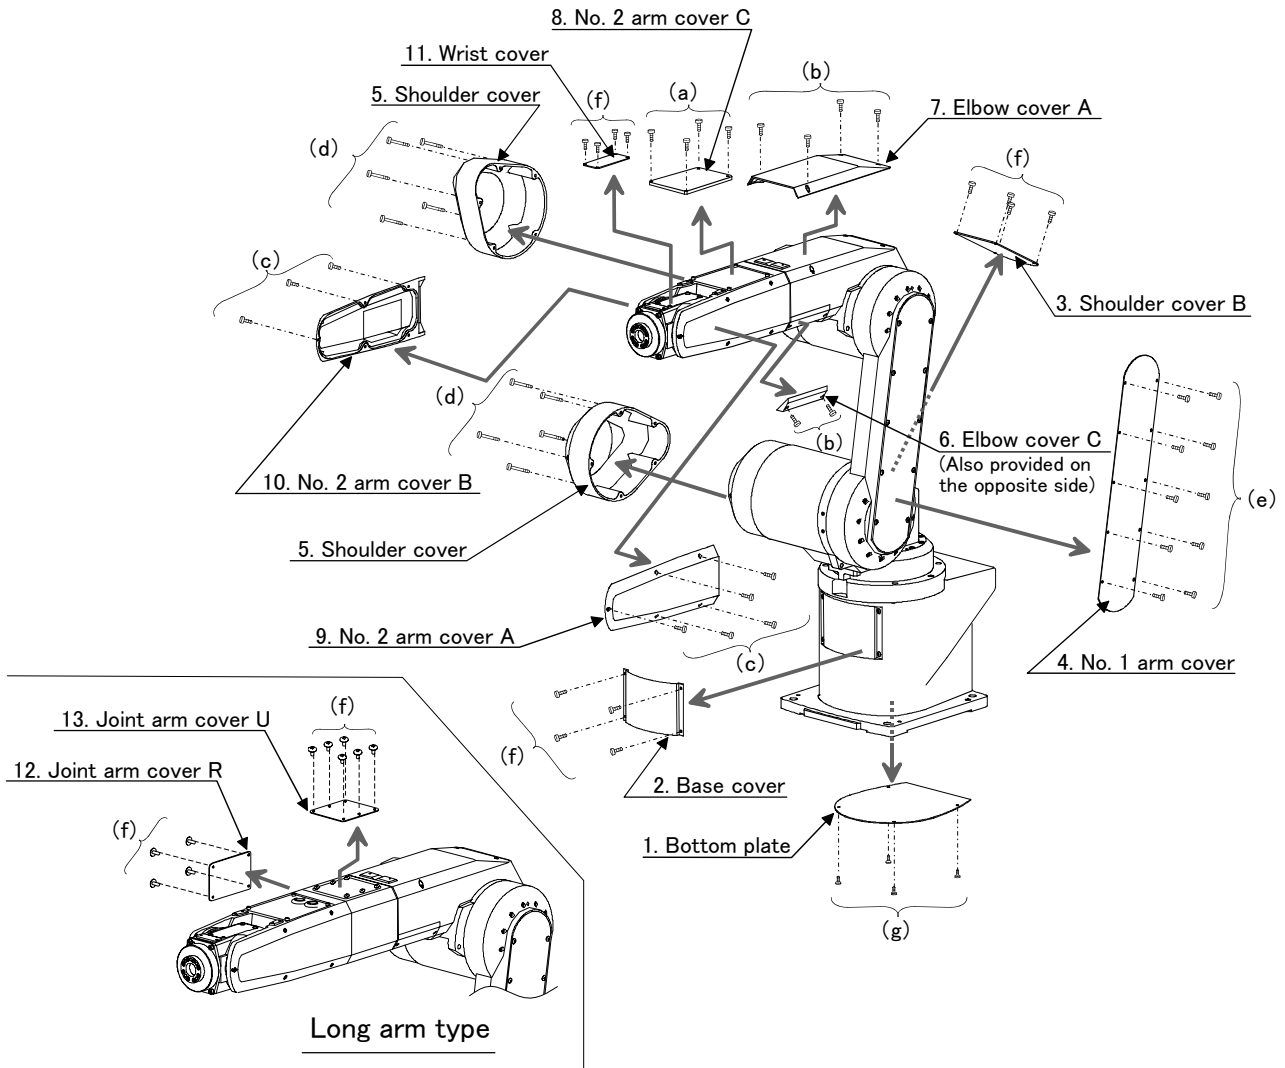

Fig.5-3 : Installing/removing the cover
- (1) Refer to Fig. 5-3 and remove the cover.
- (2) The names of the covers are given in Table 5-3, and a list of the cover installation screws is given in Table 5-4.
- (3) There are some covers that may be difficult to remove due to the robot posture. In this case, change the robot posture with jog operation, and then remove the cover. If the minus driver is inserted, it will be easy to remove the cover. Be careful not to damage packing.
- (4) When attaching the cover after maintenance and inspection, use the detaching procedure in reverse.
The part Nos. and symbols in Table 5-3 and Table 5-4 correspond to Fig. 5-3.